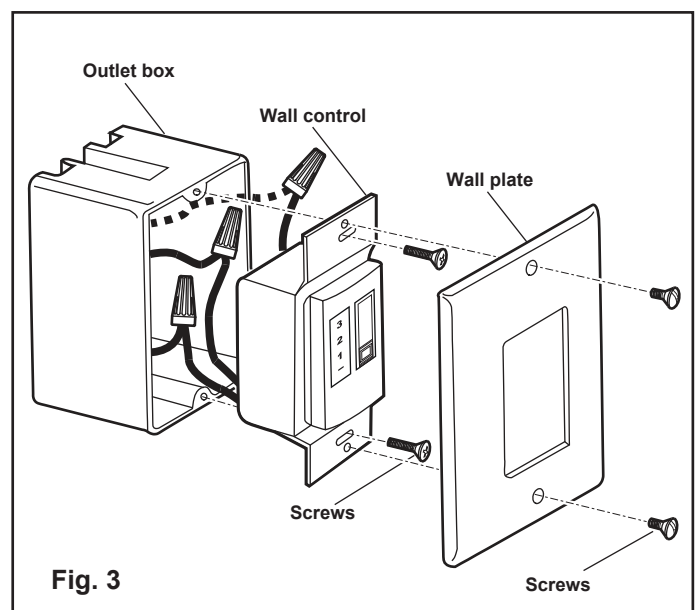

Fig. 3
- Attach the wall plate over the wall control and secure with the two screws provided (Figure 3).